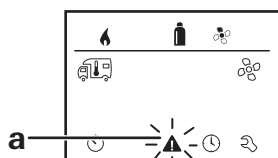

Fig. 23
1. Select the icon (Fig. 23 – a) with the rotary push button.
i In this case, the error is not acknowledged in the CP plus and the warning icon (Fig. 23 – a) remains. The appliance remains in error status. Other connected appliances can be operated.
1. Select the warning symbol (Fig. 23 – a) with the rotary push button.